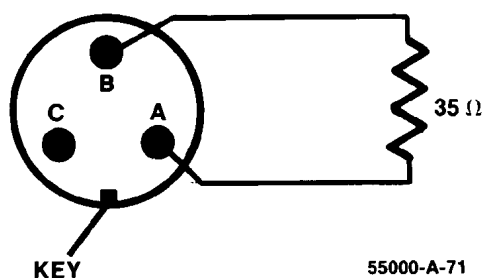

Figure 1-8. Connection of Resistor to Transducer Connector
- Adjust the speed-setting pot from full counterclockwise to full clockwise. The meter reading should vary from 2.75V \pm 2.00V (CCW) to -12.81V \pm 2.00V (CW).
- Connect a 35 Ω resistor (30 Ω to 60 Ω will work) to A and B of the transducer connector (see Figure 1-8). Adjustment of speed setting pot should vary the current reading on the digital display from 000 to -300 mA or more (into 35 Ω).